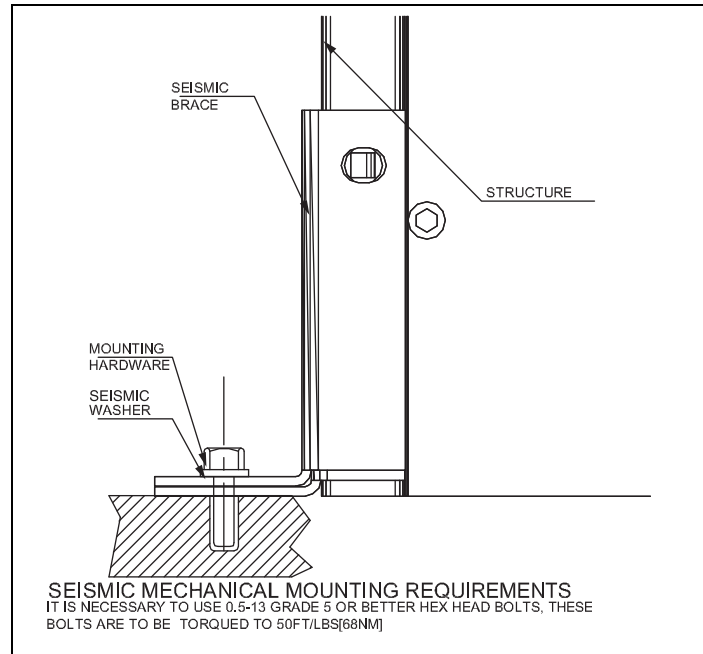

Figure 18. Seismic Tested and Approved Product Mounting Instructions.
- Step 3:** Bolt the enclosure to the base. Use separate cleats (Option 42 only) if Seismic Uniform Building Code (UBC) Zone 4 certification is desired (Figure 18), and secure with 1/2-13 UNC Grade 5 hex bolts.